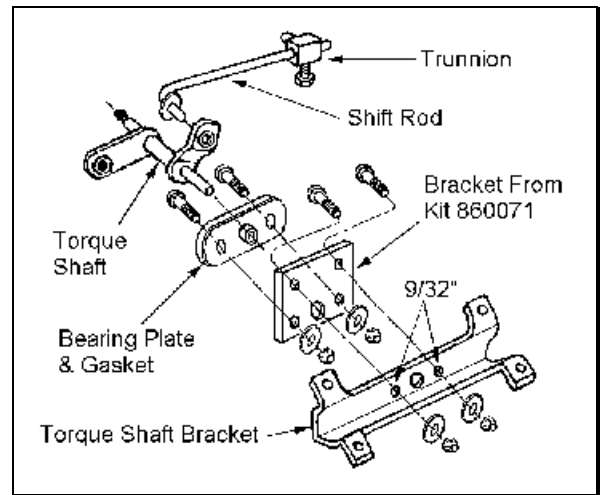

Figure 14
4. ≤ Attach the shift relocating bracket (from kit 860071) to the torque shaft bracket as shown in figure 14. Use the hardware from kit 860071.
5. ≤ Attach the bearing plate, with gasket, to the shift relocating bracket. See figure 14.